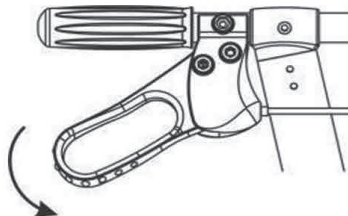

Fig.2
2. To activate the parking brake, push the brake lever down until it locks (Fig. 2).